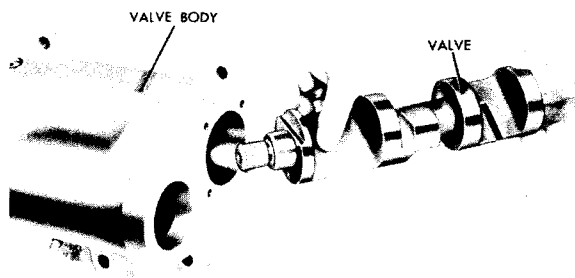

Fig X-5. Removing (or installing) the hydraulic brake valve in the brake valve body
(7) Remove the hydraulic retarder valve from the retarder valve body (fig. X-5).
(8) Do not remove the oil seal in the
(1) Install the hydraulic retarder valve into the retarder valve body (fig. X-5).